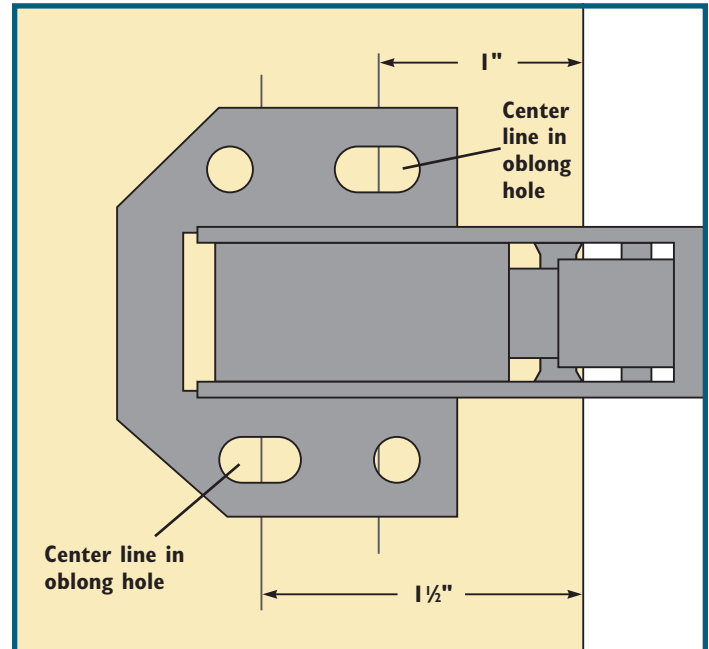

Fig. 1
2. Draw vertical lines 1" and 1½" in from the back edge of the door at the mounting locations. If there's a chamfer on the back edge of the door, make sure that you measure from the outside edge of the door, not from the chamfer. **Fig. 1.**
3. Position the hinges at the desired mounting locations, holding them square to the edge, and align the two rows of mounting holes with the lines. Mark the centers of the oblong mounting holes on the vertical lines. **Fig. 1.**
8. Close the door and check the overlay of the door. Adjust as needed by slightly loosening the screws holding the hinge to the door and shifting the door. **Fig. 1.**